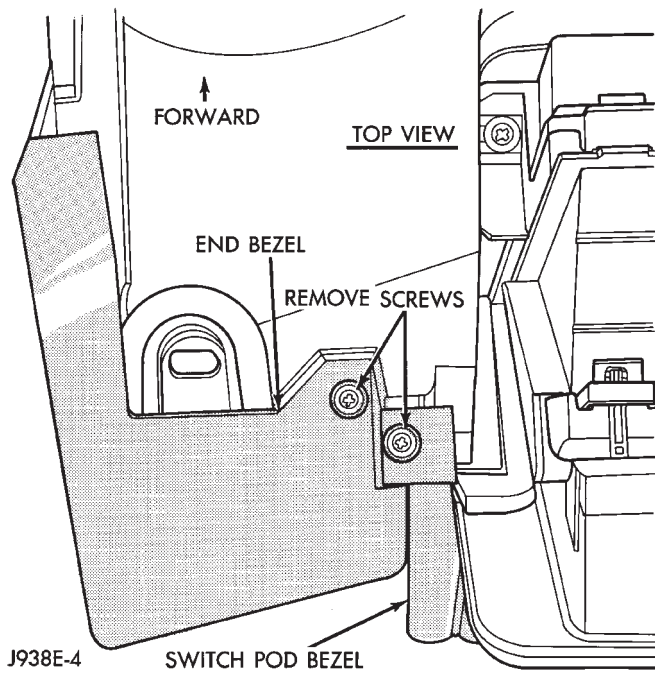

Fig. 14 Remove Screws Holding Top Of Bezels
- (18) Remove 2 screws holding top of end and switch pod bezels (Fig. 14). The end bezel can now be removed.